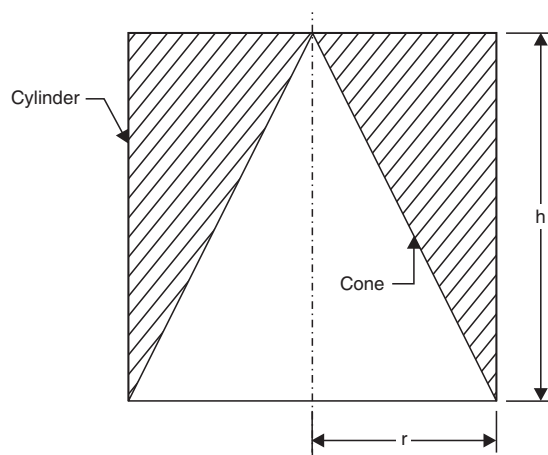

Fig. 4.54
17. A solid right circular cylinder has its base scooped out (Fig. 4.54) so that the hollow is a right circular cone on the same base and having the same height as the cylinder. Find the c.g. of the remainder.